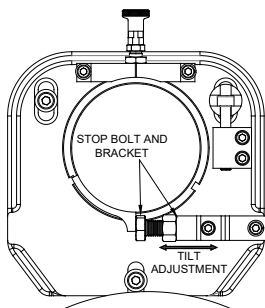

Figure 2
7. If there is an uneven gap between electrodes, adjust the electrode assembly stop bolt to achieve an even air gap between each electrode and the ground roll (**Figure 2**).